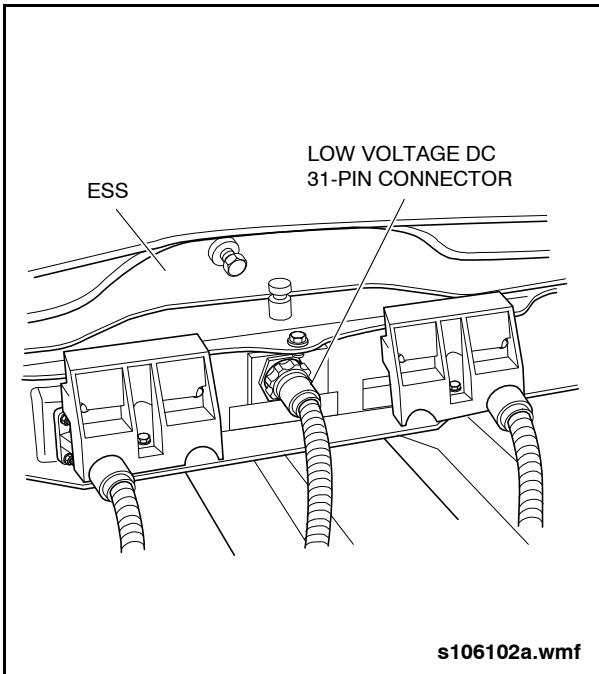

Fig. 52: ESS Low Voltage Connections
4. Remove connector PB140 (low voltage 31-pin connector) from the ESS. See "Fig. 52: ESS Low Voltage Connections" on page 3.